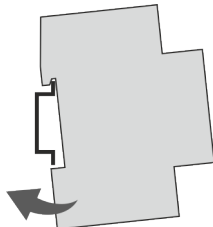

Fig. 4: Installation on a DIN rail
1. Place the channel extension on the DIN rail (Fig. 4) from above and press it back until it locks into place.